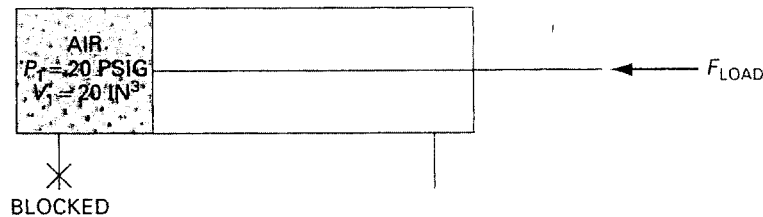

Figure S4.2
- c) A piston inside a pneumatic cylinder with diameter of 2 in. As in Figure S4.2 retracts 5 in from its original position ( $P_1 = 20$  psig,  $V_1 = 20$  in3) due to external load on the rod. If the port at the blank end of the piston is blocked, find the new pressure by assuming there is no temperature change.